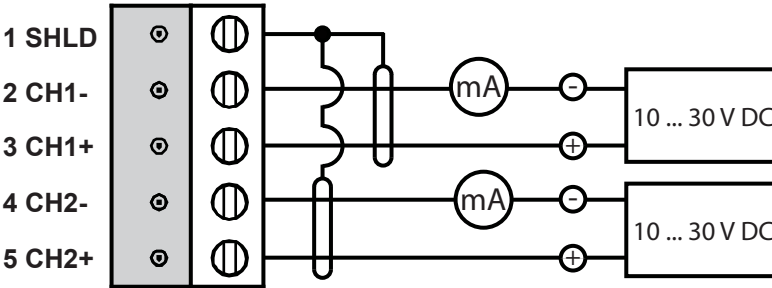

Figure 12 Isolated current loop wiring
1) Terminal numbers 1 ... 5 in the first column of the wiring table refer to Figure 12 \(page 26\)
3. Connect the wires as instructed in Figure 12 \(page 26\) and Table 3 \(page 26\). Suitable wire size is 0.5 ... 1.5 mm² (20 ... 15 AWG).